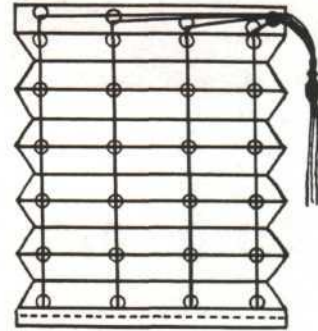

Figure 3. Assembled shade.
14) Attach screw eyes on the back directly above each row of rings, staggering each a little lower (Figure 3). Use the large screw eye at the top right corner on the board.